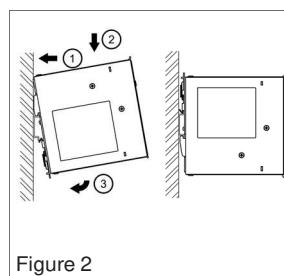
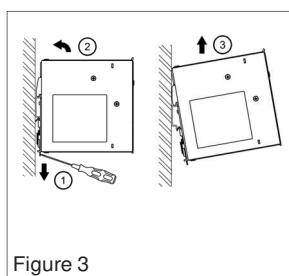

Figure 2
Figure 3
## 3. Mounting and dismantling (Fig. 2, Fig. 3)
1. Tilt the unit slightly upwards and put it onto the DIN rail. Snap on the DIN rail as shown in Fig. 2.
5. To uninstall, pull or slide down the latch as shown in Fig. 3. Then, slide the PSU in the opposite direction, release the latch and pull out the PSU from the rail.